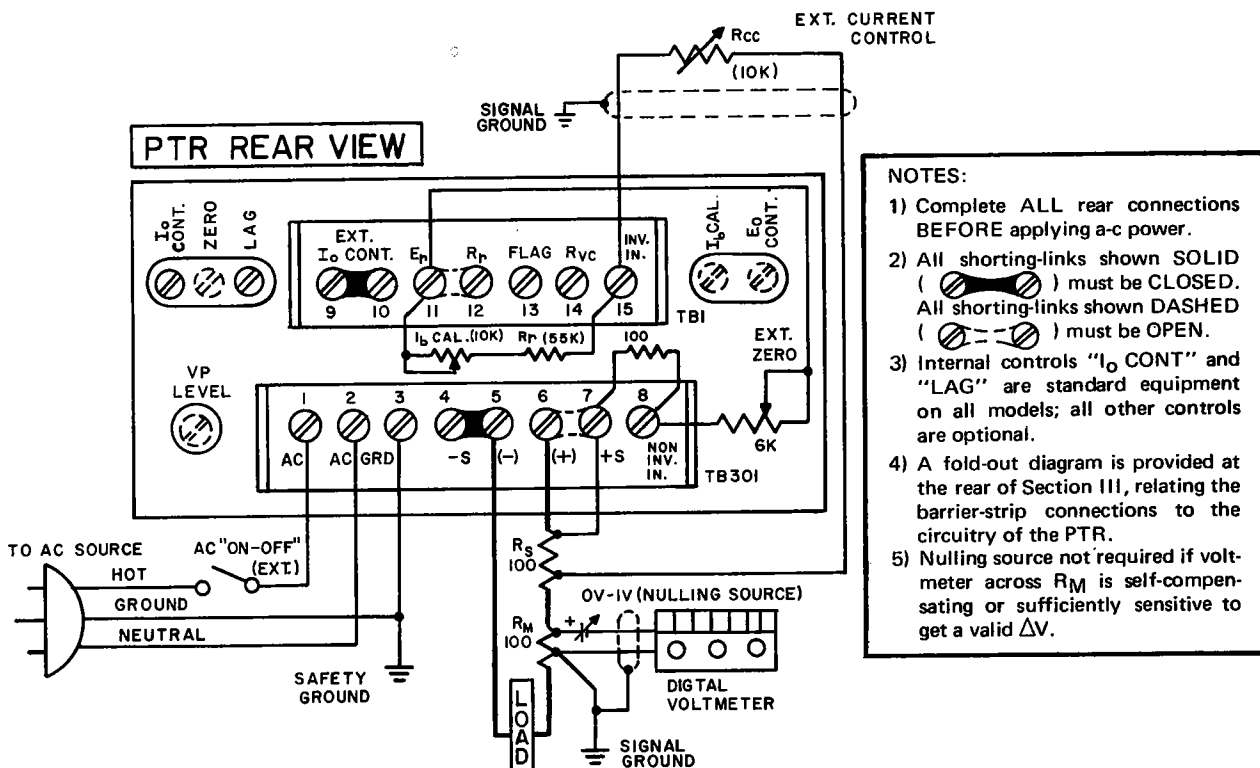

FIG. 3-10 CONNECTIONS FOR EXTERNAL SENSING AND RESISTANCE CONTROL ( $I_O$  max. = 10 mA).
- a) A "zero" control can be added externally by connecting an adjustable voltage divider network between the built-in reference source ( $E_T$ ) and the noninverting amplifier input as shown in FIG. 3-10.
- b) An external trim rheostat for calibrating the control current (and thereby the maximum output current) may be added by inserting a rheostat between terminals (11)–(12) on TB1. The value of the trim-rheostat or resistor depends on the value of  $R_T$  (see Table 3-1). It should be approximately 10% of the  $R_T$  value.
3-46 OUTPUT MEASUREMENTS. Output current measurements may be performed either with an ammeter in series with the load, or for better accuracy, across a measuring resistor ( $R_M$ ) in series with the load, paralleled by a digital voltmeter. The series "Measuring Resistor" ( $R_M$ ) should be of a similar value as the sensing resistor. Voltage measurements across  $R_M$  must be divided by the resistance value of  $R_M$  to convert the results into ampere units. Stabilization measurements may be performed with a sensitive "Null" type millivolt meter in series with a stable, adjustable voltage source (see FIG. 3-10). After the output current ( $I_O$ ) is adjusted, the voltage drop across the measuring resistor ( $R_M$ ) is "nulled" by means of the adjustable voltage source. If the load resistance is now shorted, the deviation of the "Null" meter ( $\Delta V$ ), divided by the value of the sensing resistor, is an indication of the d-c stability of the output current. In percent:
3-48 EXAMPLE I. To summarize the material presented in the previous paragraphs (3-42 to 3-47), a circuit for external sensing and resistance control is shown in FIG. 3-10 below. A PTR model is used to deliver stabilized output current from 0–10 mA into a fixed load. From the table of values (Table 3-1) we have:
3-49 Connect all components as shown in FIG. 3-10. The sensing resistor ( $R_S$ ) should be located as close to the power supply as possible. The leads connecting the control resistance ( $R_{CC}$ ) must be shielded, with the shield (single-ended) connected to the signal ground. The signal ground point must be selected carefully to avoid ground-loops. Note: PTR supplies have an internal "signal ground," consisting of a resistor/capacitor series connection from the negative output to chassis. This ground connection must be removed if the signal ground is established externally as shown. Refer to Section II (par. 2-8) of this manual for the location of the internal ground connection.